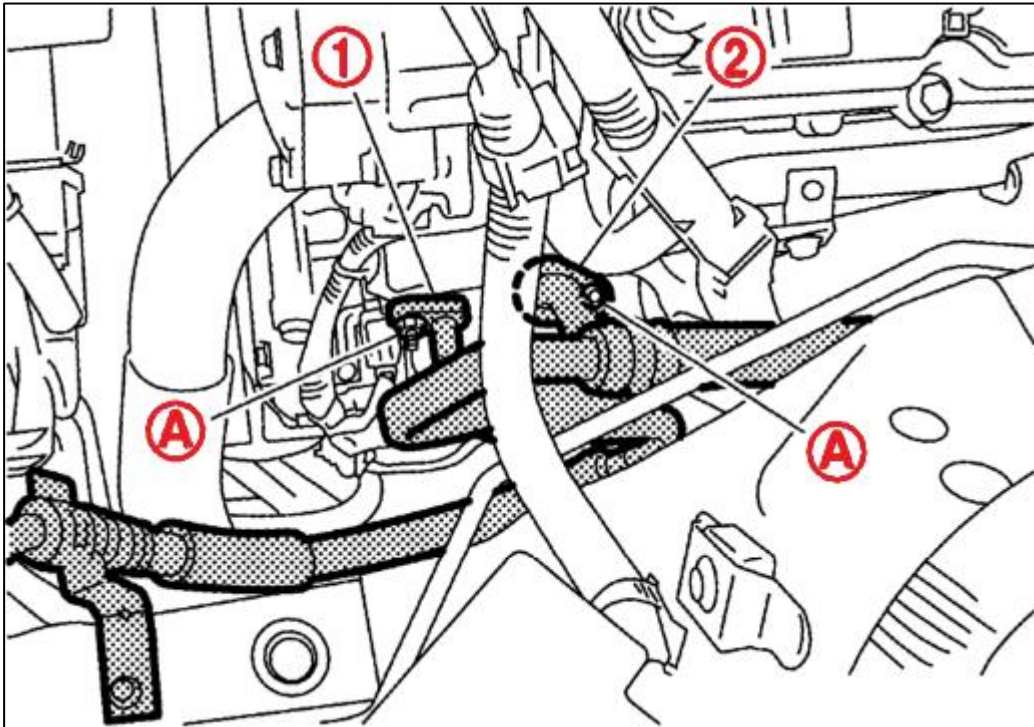

Figure 1
7. Remove the Mounting Nuts (A) that secure the High and Low Pressure Hoses (1 and 2) to the AC Compressor. *Figure 1.*